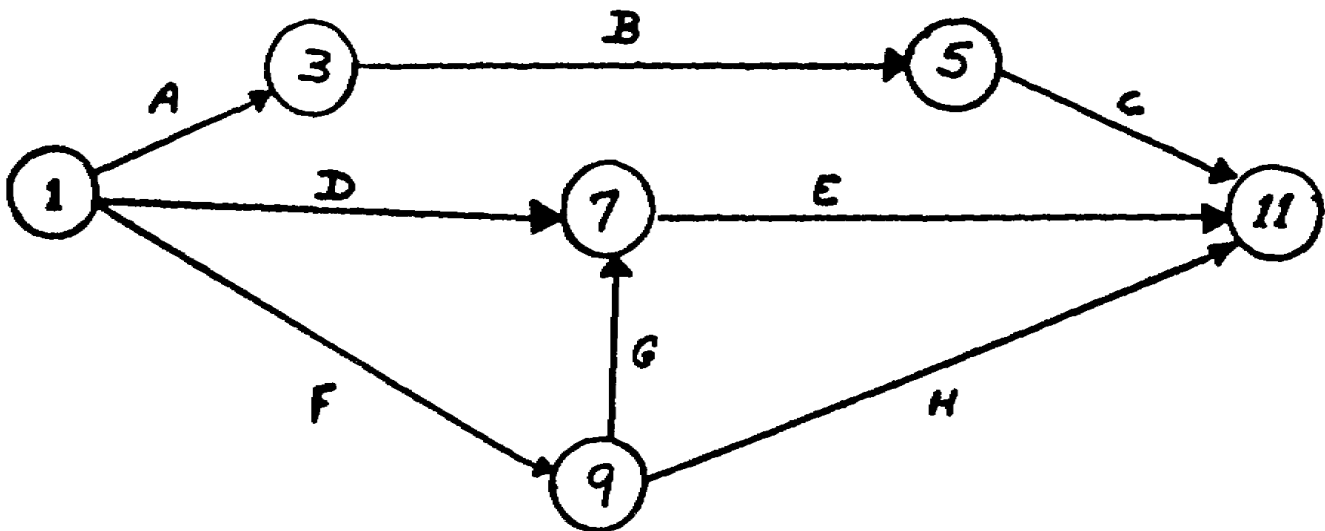

Figure 2-1. For use with exercise 7.
7. In figure 2-1, there is a numbering error. Which of the following responses best describes that error?